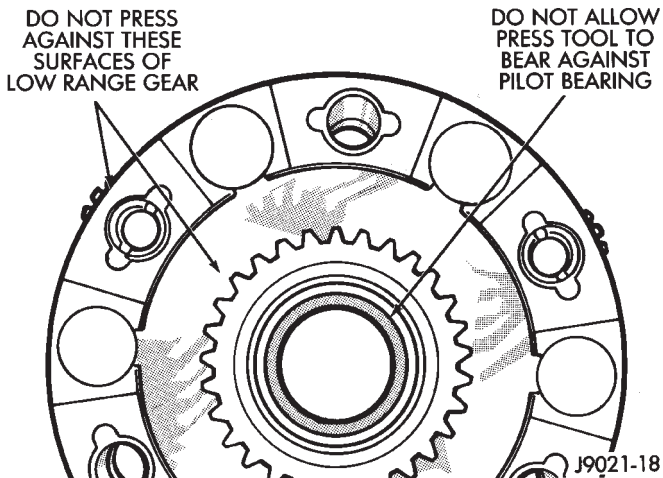

Fig. 36 Input And Low Range Gear Installation
- (13) Install input gear snap ring (Fig. 36).
- (14) Lubricate input gear with automatic transmission fluid.
- (15) Start input gear in front bearing.
- (16) Press input gear into front bearing (Fig. 36).